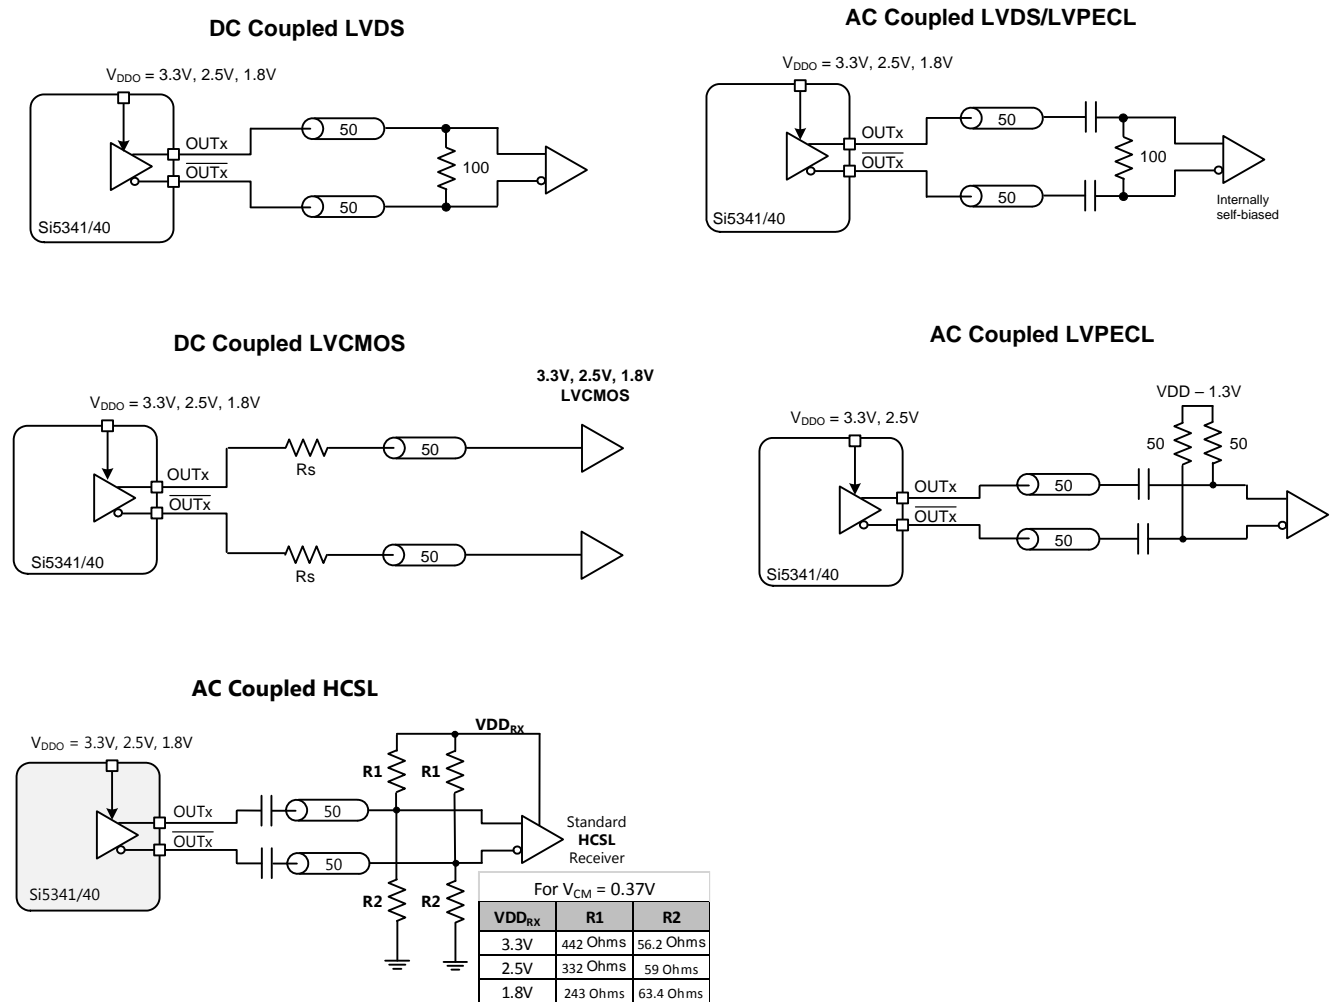

Figure 9. Supported Differential Output Terminations
The differential output drivers support both ac-coupled and dc-coupled terminations as shown in Figure 9.
- **Differential High Swing Mode:** When an output driver is configured in high swing mode, its output swing is configurable as one of 7 settings ranging from 400 mVpp_{se} to 1600 mVpp_{se} in increments of 200 mV. The output driver is in high impedance mode and supports standard 50 Ω PCB traces. Any of the terminations shown in Figure 9 are supported. The use of High Swing mode will result in larger pk-pk output swings that draw less power. The trade off will be slower rise and fall times.